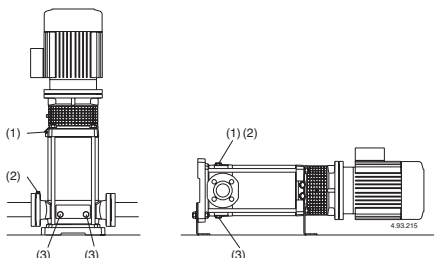

Fig.4d (1) Filling and air vent
(2) Suction side air vent
(3) Draining
When the liquid level on the suction side is above the pump (inflow under positive suction head, **fig. 3B**), fill the pump by slowly and completely opening the inflow gate valve while keeping the delivery gate valve and air vent holes (1), (2) (**fig.4d**) open to release the air.
Close the air vent holes (1), (2) (**fig.4d**), for CVD 031-051-101-151-2010 Tighten the needle screw (14.17) in the drainage plug (14.12) (**fig. 4b**) and close the air vent hole (14.04).